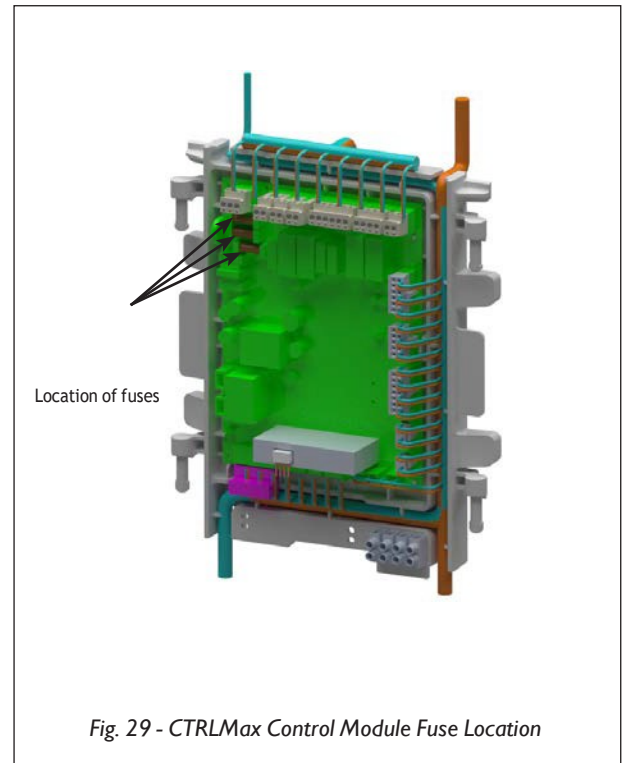

Fig. 29 - CTRLMax Control Module Fuse Location
- The CTRLMax control module contains 3 internal replaceable 5A fuses as shown in *Fig. 29 below*.